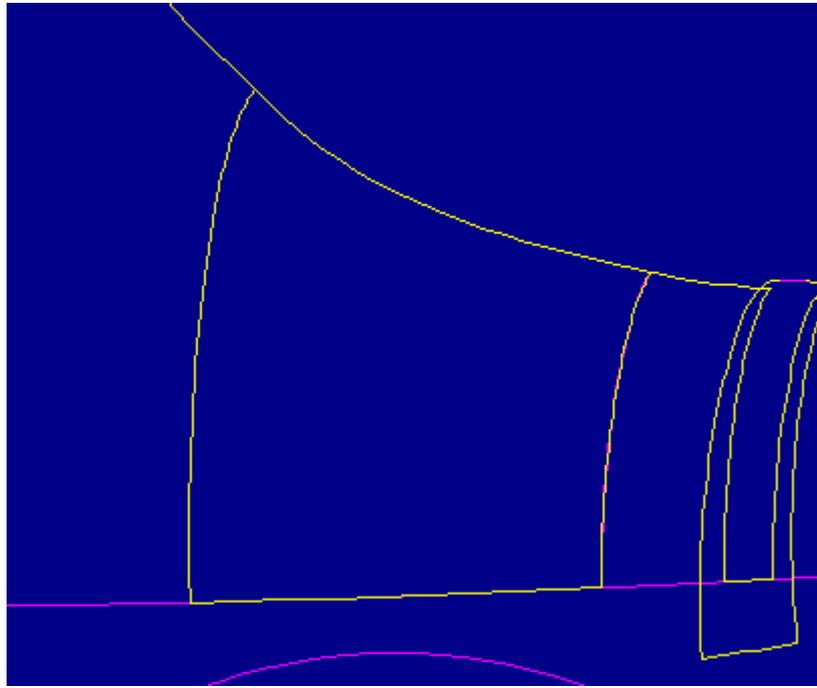

Figure 8
6. In the HEAL GEOMETRY menu select **EXCLUDE SURFS** and one of the two coincident surfaces. In the EXCLUDE SRFS menu select **Done**. Figure 8 shows the import feature after regeneration. Notice that one of the two coincident surfaces is entirely outlined in yellow, i.e. it has been excluded from joining into the quilt.